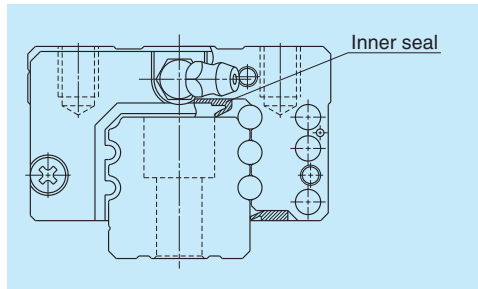

Fig. 7.6 Inner seal when installed
(4) Inner seal
- The end seal installed on both ends of a slide cannot stop all contaminants, though the missed amount is negligible. An inner seal protects the rolling contact surface from such contaminants which entered inside the slide (Fig. 7.6).